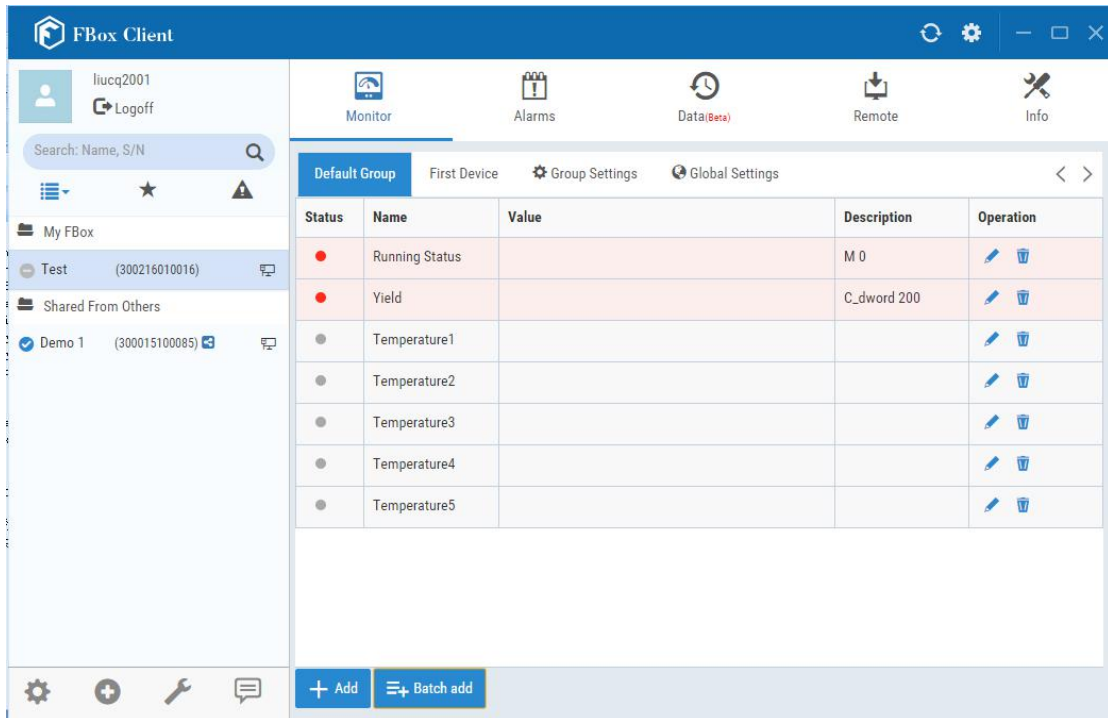

Fig. 4.6-11 View the monitored data added by "Batch add" method
(2) After configuring the monitored data and click the "OK" button in "Batch add data monitor item" dialog, the information of a batch of monitored data which are added by "Batch add" method will be displayed in the current group sub-tab page, as shown in Fig. 4.6-11.